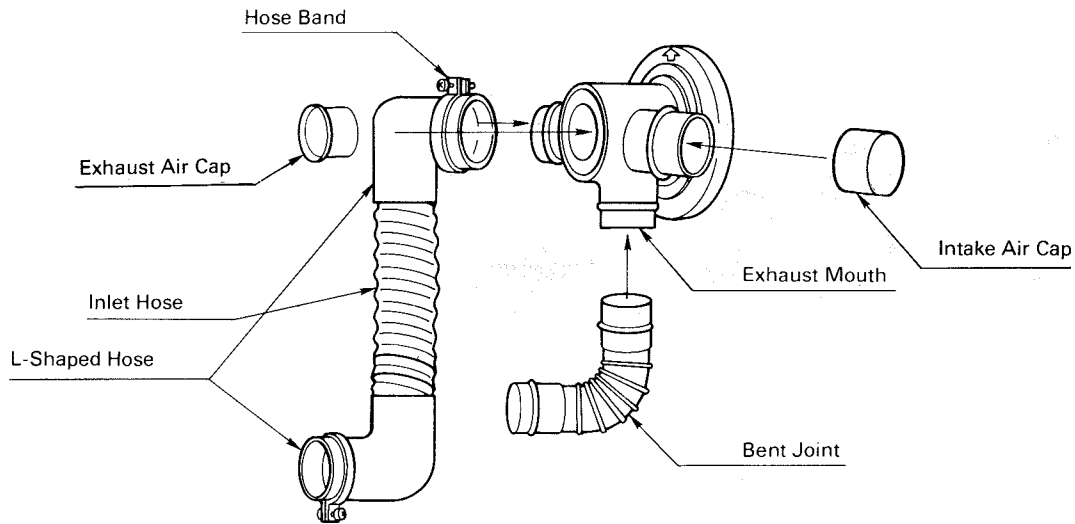

Fig. 11
7. Insert the bent joint to the exhaust mouth of the standard flue pipe. Cut the inlet hose for desired length if necessary. Attach the L-shaped hose to each end of the inlet hose and attach the L-shaped hose to the intake mouth of the standard flue pipe. Secure the L-shaped hose to the intake mouth with the hose band. Plug the unused exhaust and intake mouth with the caps provided with the heater. Make sure the caps fit tightly onto the mouth (See Fig. 11).